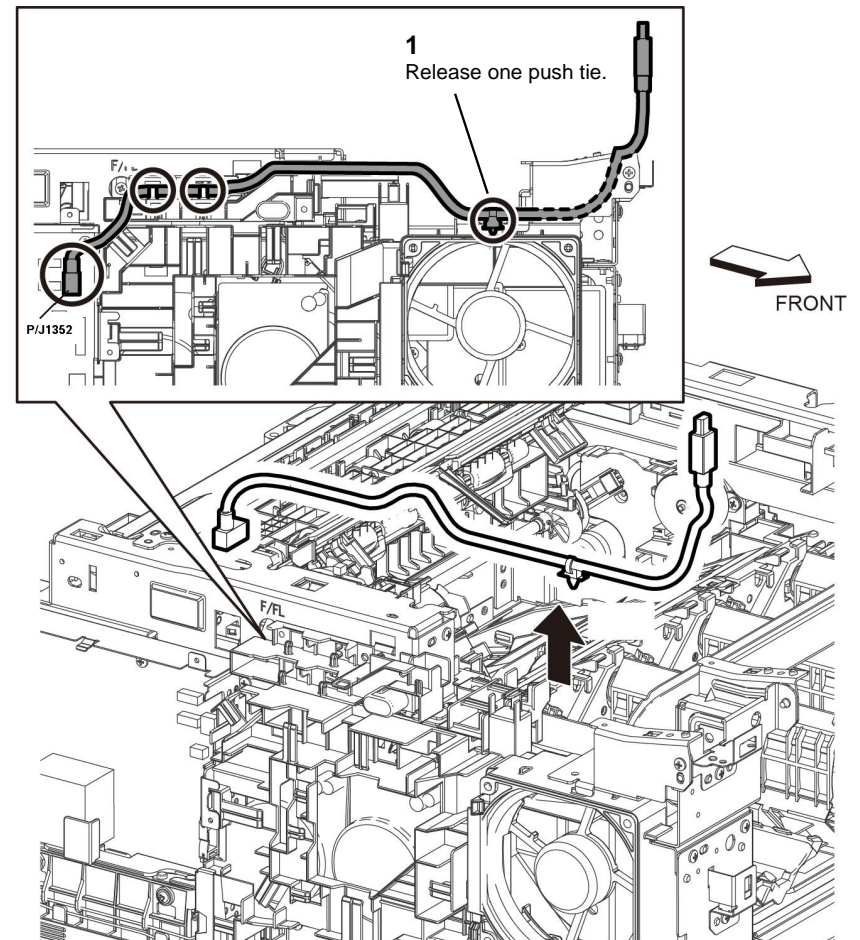

Figure 1 Remove the UI Harness Assembly (C500/C505)
2. Release one push tie (1) holding the harness to the front USB harness guide, PL 18.11 Item 21.
3. Disconnect the UI harness from the ESS PWB at P/J1352, then remove the UI harness, Figure 1.